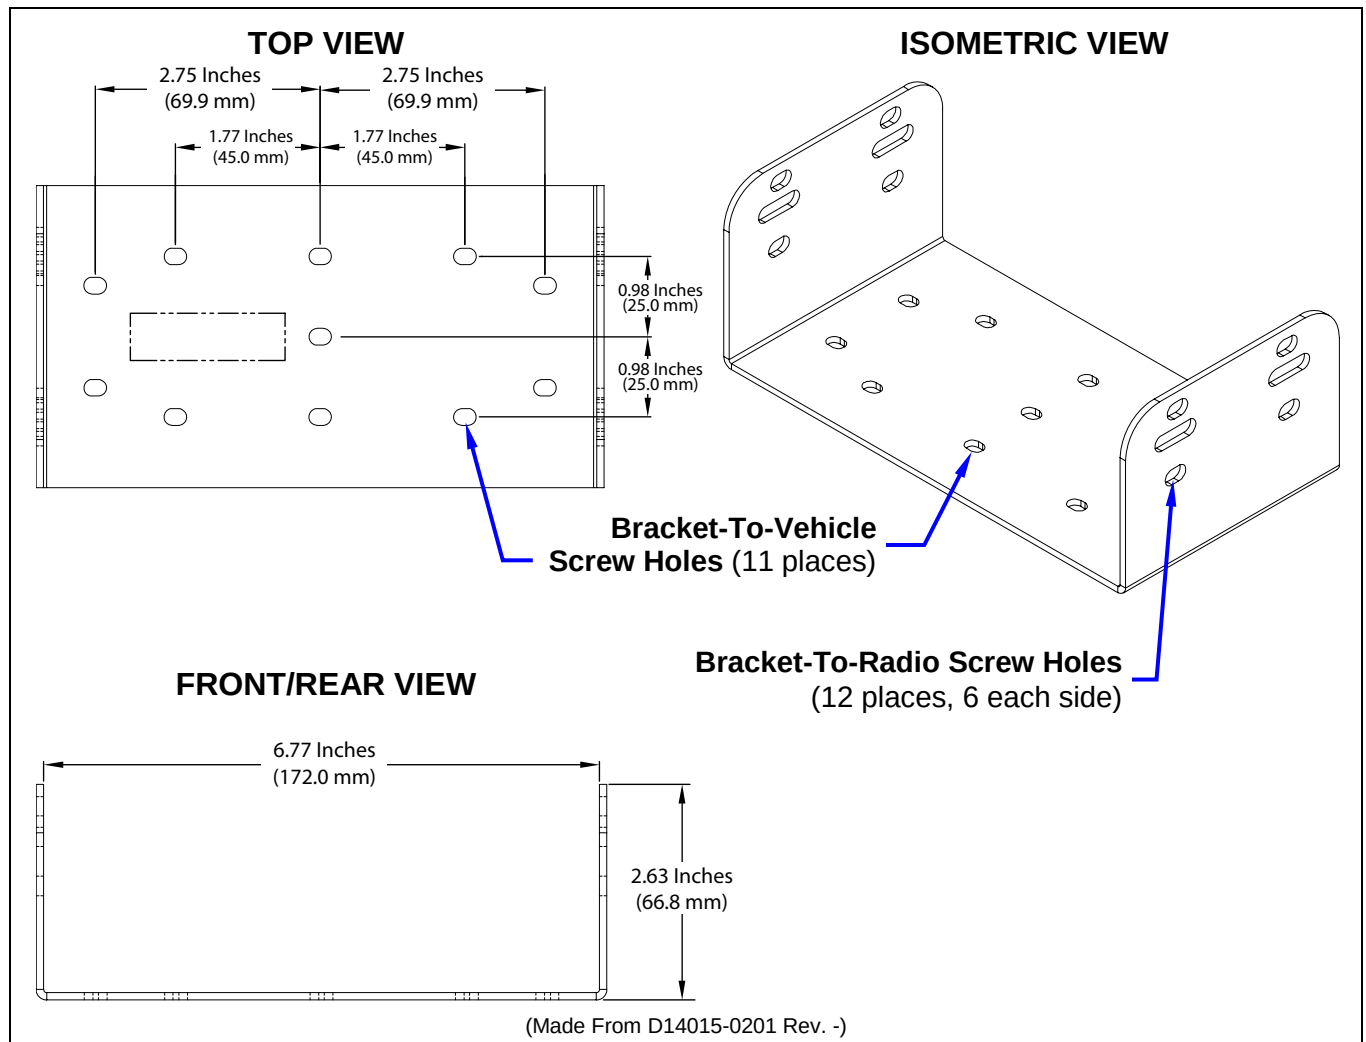

Figure 7-3: Mounting Bracket 14015-0201-02 Dimensions (Radio Not Shown)
The Mounting Bracket Kit for the radio includes a heavy-gauge steel U-shaped mounting bracket. The radio should be attached to a mounting surface using this bracket. The bracket can be mounted above or below the radio. Kit contents are shown in Figure 7-2, and bracket dimensions are shown in Figure 7-3.
As shown in Figure 7-3, the bracket is both left-to-right and front-to-rear symmetrical. It has eleven (11) holes for securing it to a mounting surface. At least four (4) of these holes must be used to secure the bracket to the mounting surface. Four 1-inch-long #10-32 stainless-steel self-tapping screws are included in the Mounting Bracket Kit for this purpose. However, some other type of hardware (not supplied) may be used, such as #10-32 stainless-steel self-locking hardware (i.e., machine screws with washers and locking nuts), or self-drilling screws. Self-drilling screws such as "TEK" screws do not require drilling of a pilot hole prior to installation. Do **not** use common self-threading sheet metal screws because they will loosen over time with vehicle vibrations.
6. Using the bracket as a template, and/or the dimensional information shown in Figure 7-3, mark and drill at least four (4) mounting holes into the mounting surface as required per the type of hardware used.